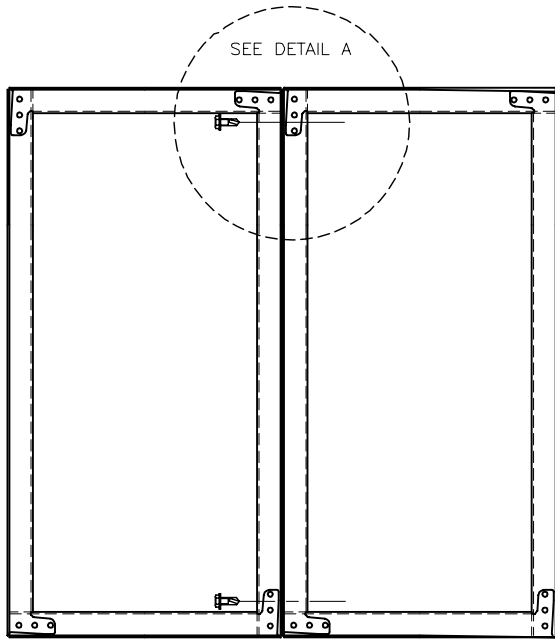

Figure 1
3. The damper sections must be attached together with #10 x 3/4 inch (19mm) max. sheet metal screws, 1/4 inch (6mm) diameter nuts and bolts, tack or spot welds or 3/16 inch (4mm) diameter steel pop rivets. Attachments must be spaced a maximum of 6 inch (152mm) on centers and a maximum of 2 inch (51mm) from corners. Attachments must be made on front face and back face ( air entering and air exiting side) of damper sections (see Figure 1 & 2).